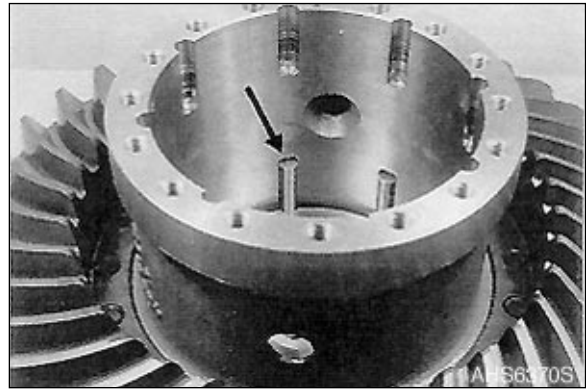

Figure 264
6. Insert drive pin, see Figure 264.